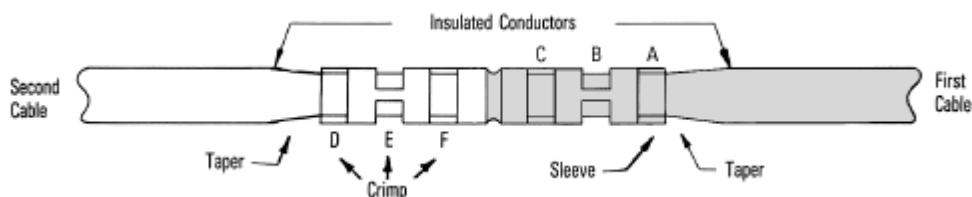

Figure 5-30: Splicing sleeve installation
14. Use a crimping tool (nicopress tool) to place crimps in the sleeve. Refer to Figure 5-30. Place a crimp at position **A**. Rotate the crimping tool 90 degrees and place a crimp at position **B**. Rotate the crimping tool 90 degrees and place a crimp at position **C**.